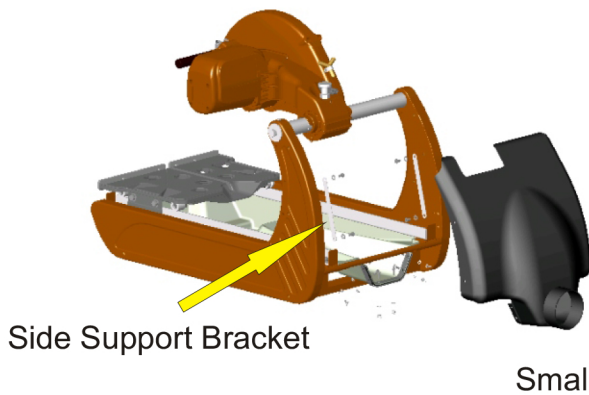

Figure 6-1: Side Support Bracket Location
3. Attach the one (1) Side Support Bracket to the inside of each side of the Dust Collecting Guard with the hex-head bolts and flat washers (see Figure 6-1: Side Support Bracket Location). NOTE: The Side Support Bracket will hold the Dust Collection Guard to] the vertical upright. This figure is shown in an exploded view for clarity.